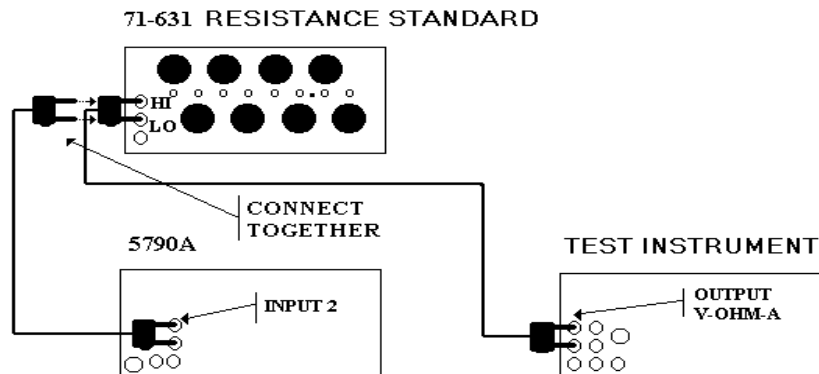

Figure 9. Ac current (1.0 mA and 100 μ A).
- (1) Connect equipment as shown in figure 9. Set resistance standard dials to 000100.00. Press **INPUT 2** pushbutton on ac measurement standard.